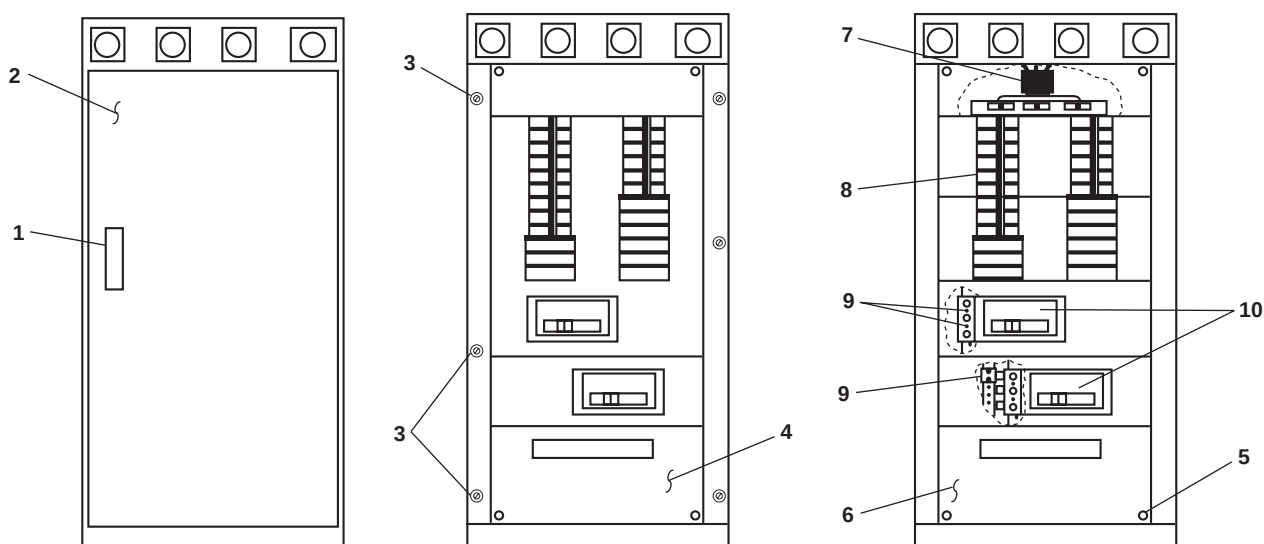

Figure 1. Load Center
1. Press the key latch (figure 1, item 1) and open the door (figure 1, item 2).
2. Loosen the screws (figure 1, item 3) and remove the face panel (figure 1, item 4).
3. Remove the screws (figure 1, item 5) from the inner panel (figure 1, item 6). Remove the inner panel.
4. Use a multimeter to check for voltage at the fuses (figure 1, item 7). If voltage is present, ensure that the proper circuit breaker is set to OFF, locked out, and tagged out (FM 55-502). If no voltage is present, continue with the procedure.
1. Install the inner panel (figure 1, item 6) and secure it with the screws (figure 1, item 5).
2. Install the face panel (figure 1, item 4) and secure it with the screws (figure 1, item 3).
6. Close the door (figure 1, item 2) and secure it with the key latch (figure 1, item 1).